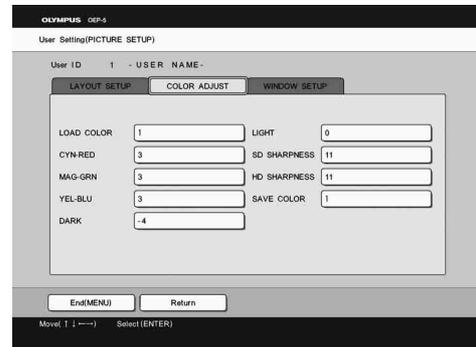

Figure 5.17
- 3** Press “◀” or “▶” to display “COLOR ADJUST” (see Figure 5.17).